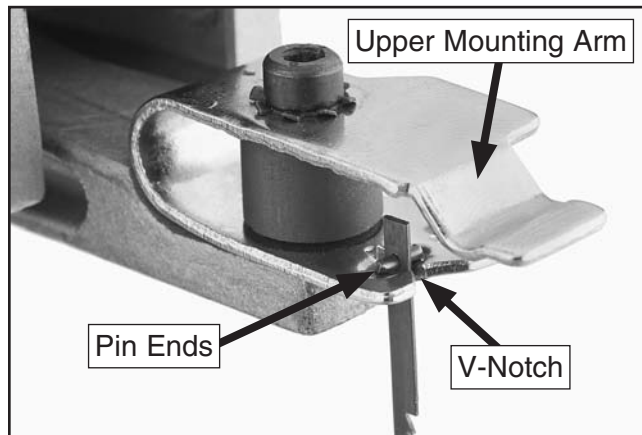

Figure 27. Blade installed on upper blade mounting arm.
5. Push down on the upper blade mounting arm shown in **Figure 27**, slide the blade out of the upper and lower mounting arms, then remove it.
8. Push the upper blade mounting arm down, then slide the upper pin-ends onto the V-notch of the upper blade holder, as shown in **Figure 27**.